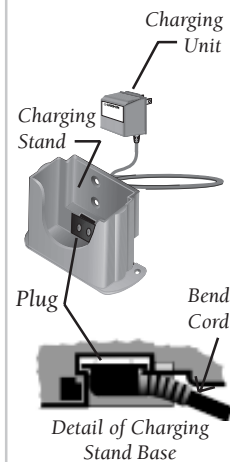

FIGURE 2
1. Insert the Charging Unit cord plug with contact pins into the base of the Charging Stand. Position the flange on the plug over the slots in the bottom of the stand base and then press down until it clicks into place. Pull the cord away from the stand slightly to allow the plug to move down freely. (Figure 2)